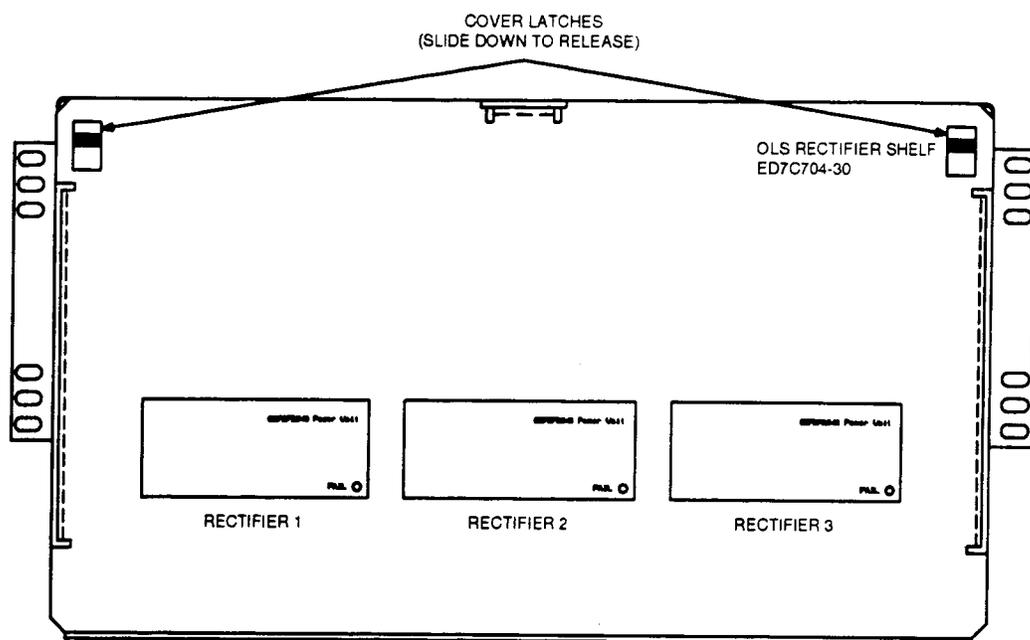

Figure 2 — ED-7C704-30 Rectifier Shelf (with Cover)
4. On rectifier shelf, set power unit in **RECTIFIER 1**, **RECTIFIER 2**, or **RECTIFIER 3**, position for power unit being installed (Figure 2). Connect **P905-( )** (P905-1, P905-2, or P905-3) AC input cable to **J905/V IN** connector on power unit (Figure 3).